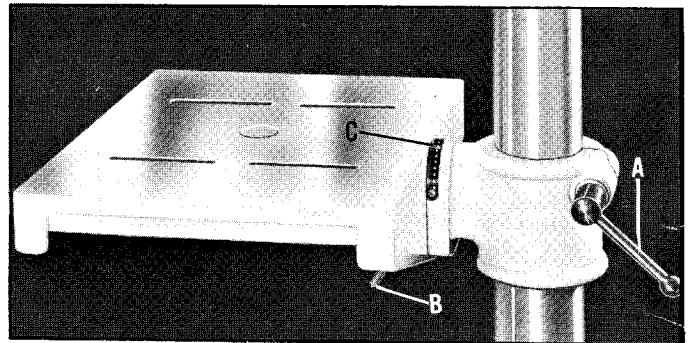

Fig. 4
To adjust the table up or down loosen the lock bolt (A) Fig. 4, on the table bracket. Hold the table while doing so.
The table has been designed with ledges, one on each side, to facilitate the clamping of work pieces. The table may also be tilted to any degree between horizontal and vertical positions. A scale (C) Fig. 4, is located at the rear of the table, and is graduated in degrees. When the table is tilted between horizontal and vertical positions, the pin (B) must be removed. The table can be tilted either right or left.